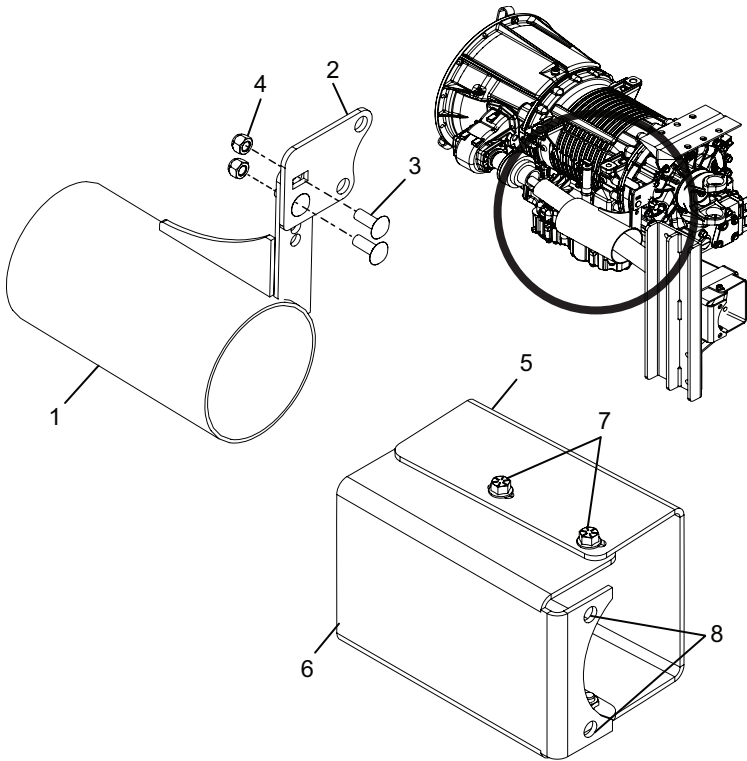

Figure 9
2. Remove and retain the hardware using the appropriate wrenches (Figure 9, Items 3 and 4) from the support plate (Figure 9, Item 2) to disconnect the circular Pump Mount cover (Figure 9, Item 1) from the support plate.
3. Remove and retain the hardware (located on topside and bottom side of the cover) (Figure 9, Item 7) from the square Pump Mount cover (Figure 9, Items 5 and 6).
4. Remove and retain the hardware connecting the square pump mount cover to the pump (hardware not shown, but location shown in Figure 9, Item 8).
5. Remove and retain both halves of the square pump mount cover (Figure 9, Items 5 and 6).